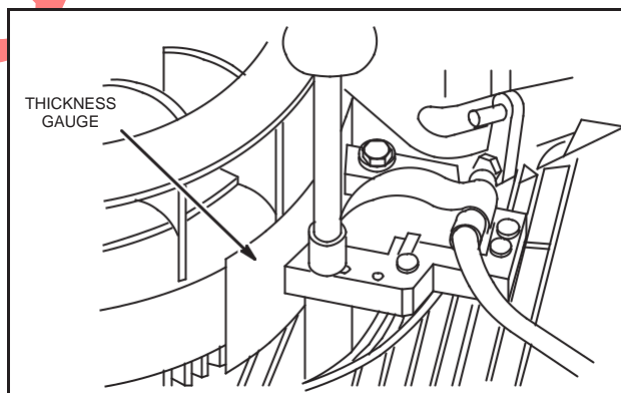

Fig. 3 – Adjusting Air Gap
2. Place thickness gauge, .008"-.012" (0.20-.30 mm) between magnet and armature laminations, Fig. 3.